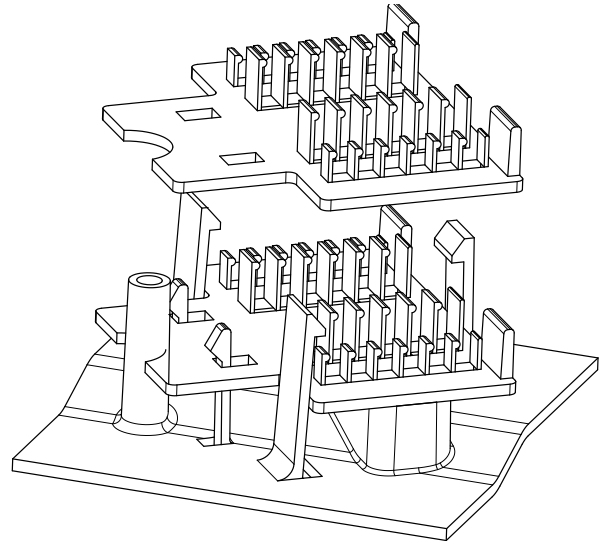

Fig.3
- Slide until the splice holders snap into place and are resting in the bottom position. (Fig.3)
- When inserting the second splice holder, align the splice holder with the inward snaps shown below. (Fig.3)
- Slide the splice holder until it snaps into place and rests on top of the bottom splice holder. (Fig.3)